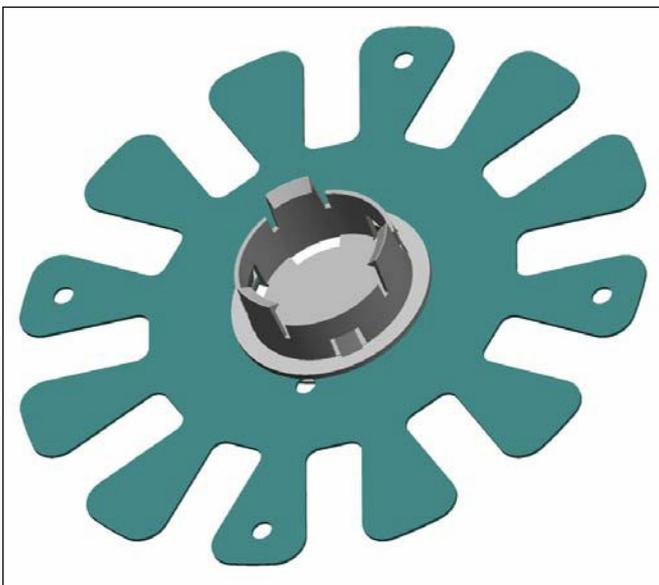

Figure 4: Tank Wall Guide
2. Remove the Tank Wall Guide (see Figure 4) from the shipping carton.